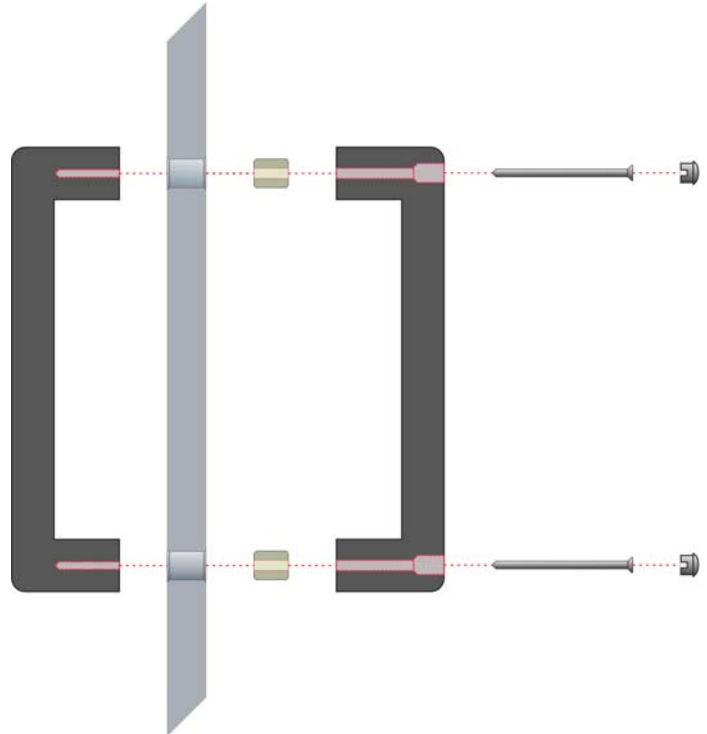

Figure 18. Installing Door Handle
38. Arrange the door handles and hardware as shown in Figure 18. Screws and cap are installed from inside the door.
41. Using the two (2) M4 x 100mm screws included in the kit, attach the door handles to the glass door.